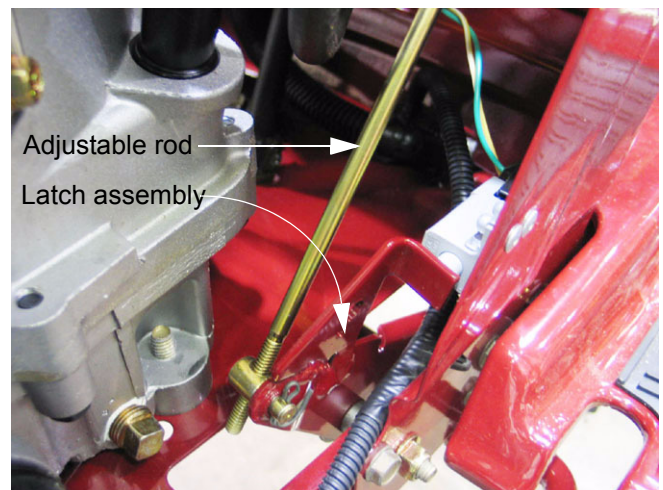

Figure 10.4
- 10.4. The lever moves an adjustable rod that moves the latch assembly. See Figure 10.4.